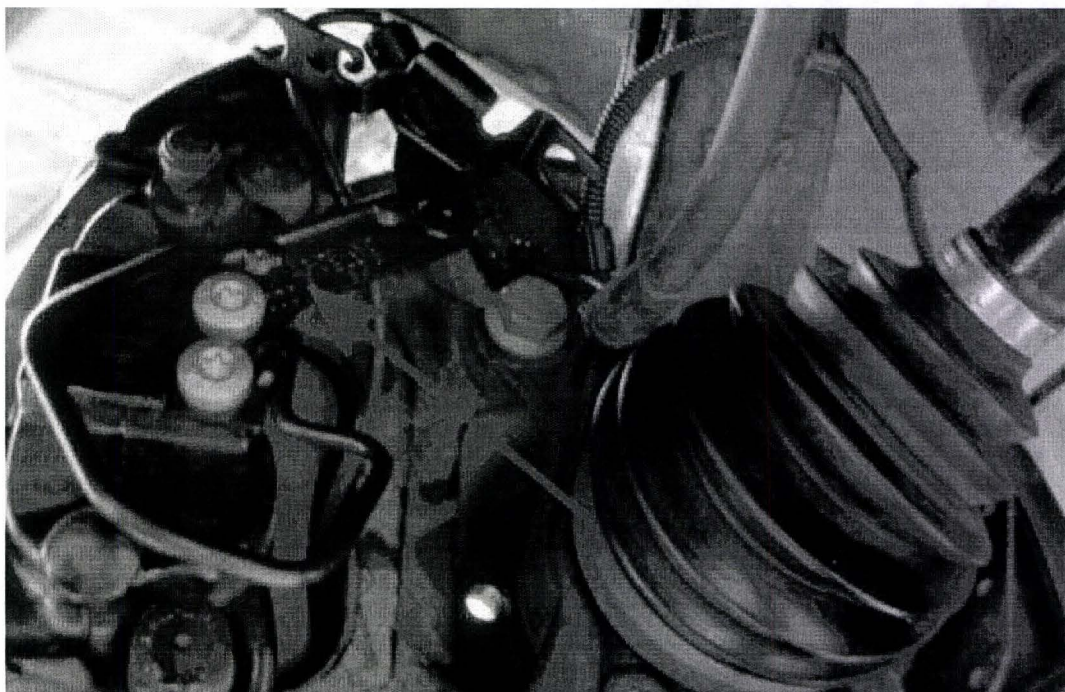

Figure 4
3. Fit the new brake caliper flexible pipe bracket as shown in Figure 4, ensure the bracket is seated and located correctly onto the caliper, use two new fixings and Torque to 23 Nm